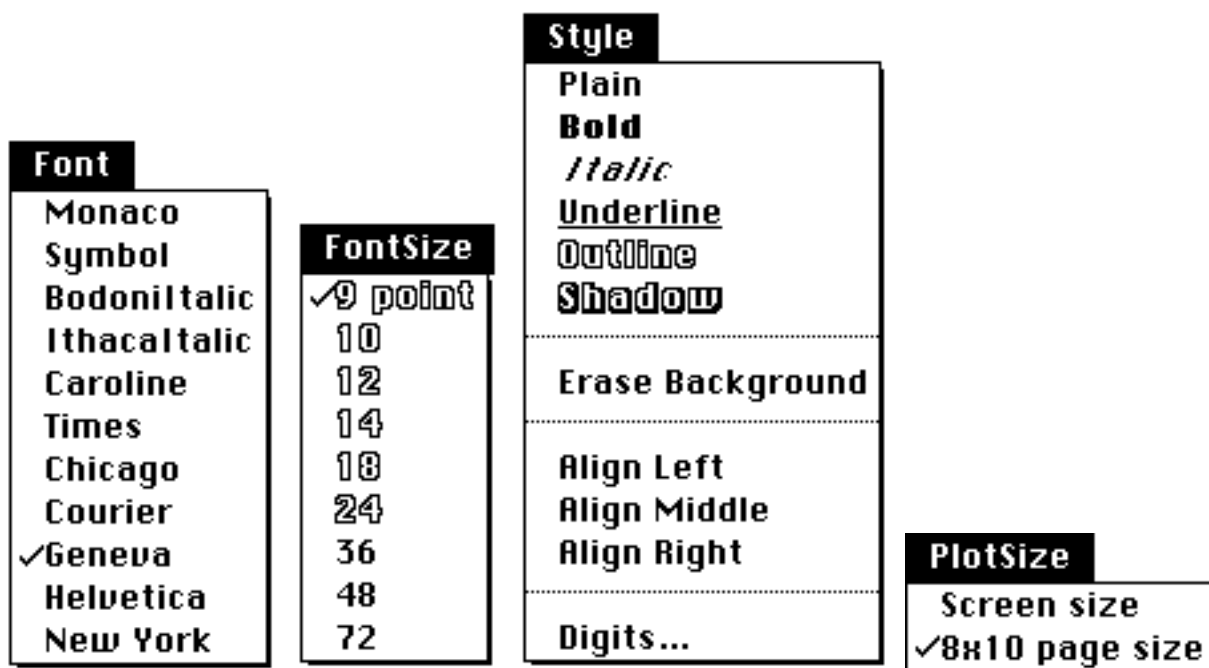

Fig 3.77 Plot menus-3
- Select Digits from the Style menu (Fig 3.77) to set the display format (Fig 3.68).
You can produce in publication quality size each of the six plot types described above. Also, the remaining plot menus which deal with labels apply here (Fig 3.77). The Font and FontSize menus reflect the fonts in your system file. *Note: Use the Font/DA Mover to change the list.*